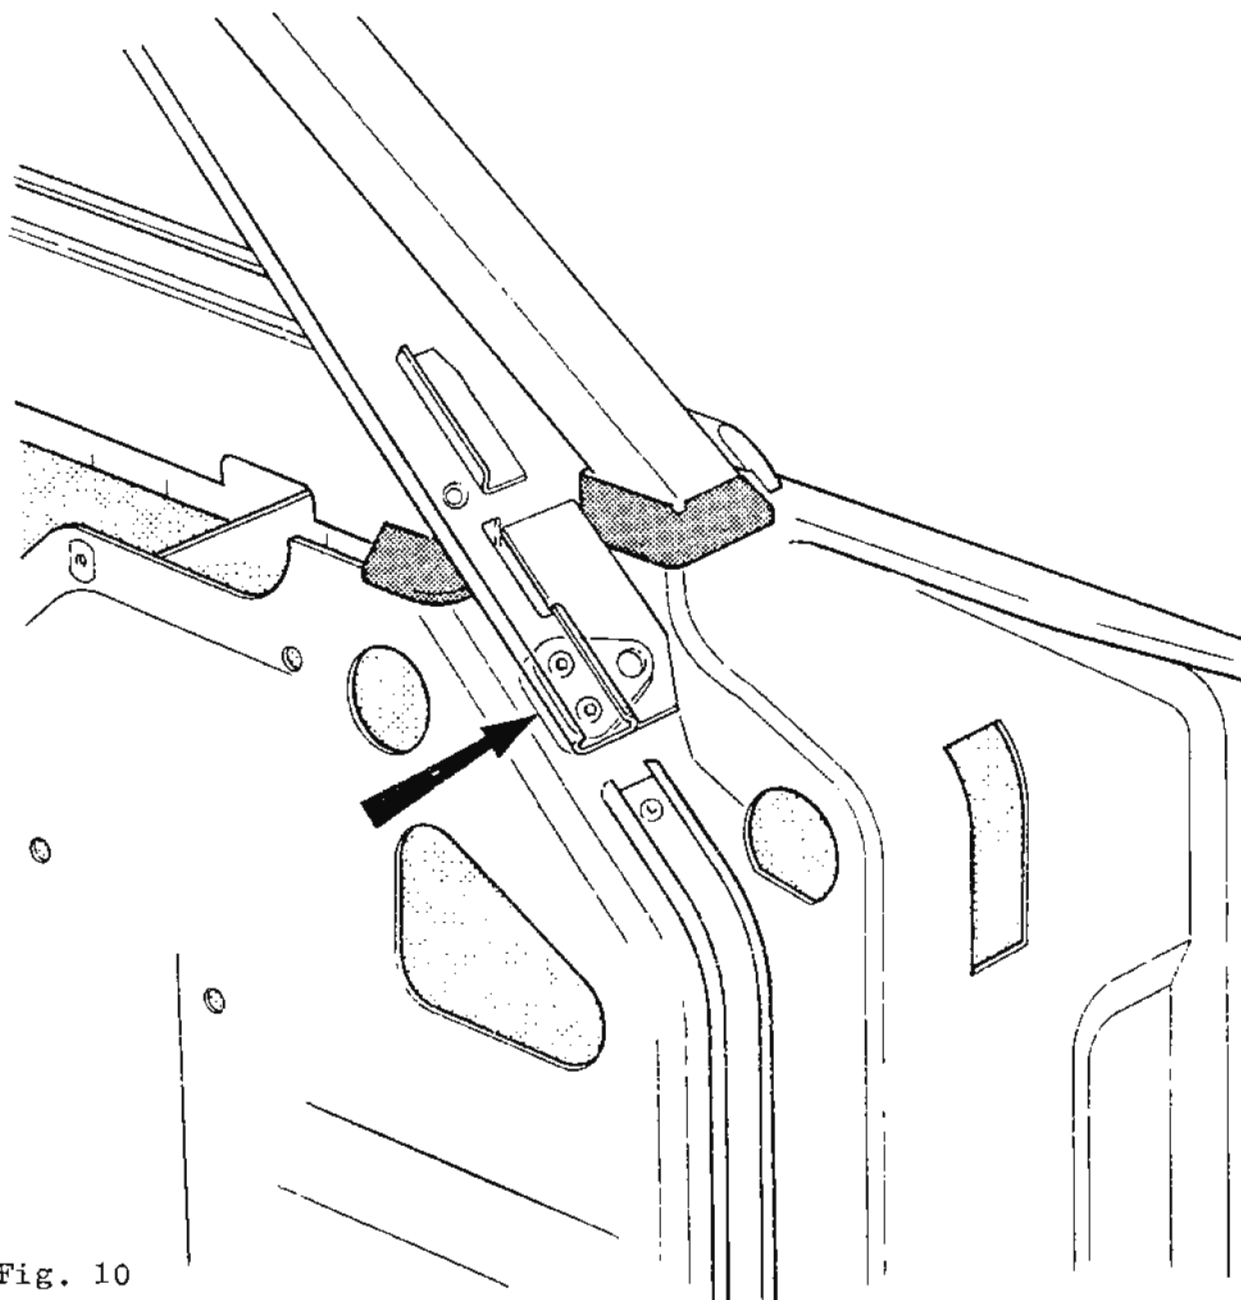

Fig. 10
22. Position the front tapping block and spacer and secure with two 'Allen' headed setscrews (see fig. 10).